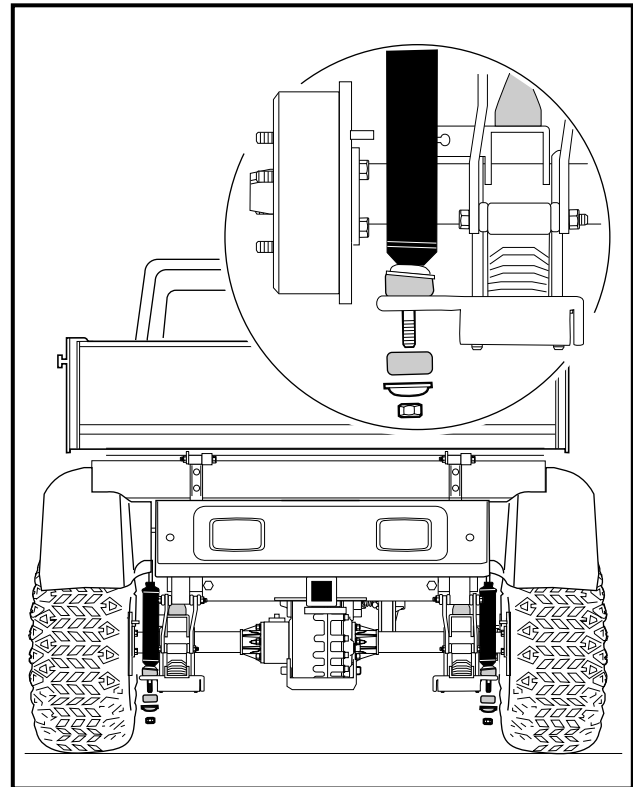

Figure 16a-25 Shock Absorbers
9. Lower the hydraulic jack, allowing the vehicle I-beam frame to rest on the jack stands but allow the jack to remain under, and in contact with, the transaxle case guard (Figure 16a-27, Page 16a-15).